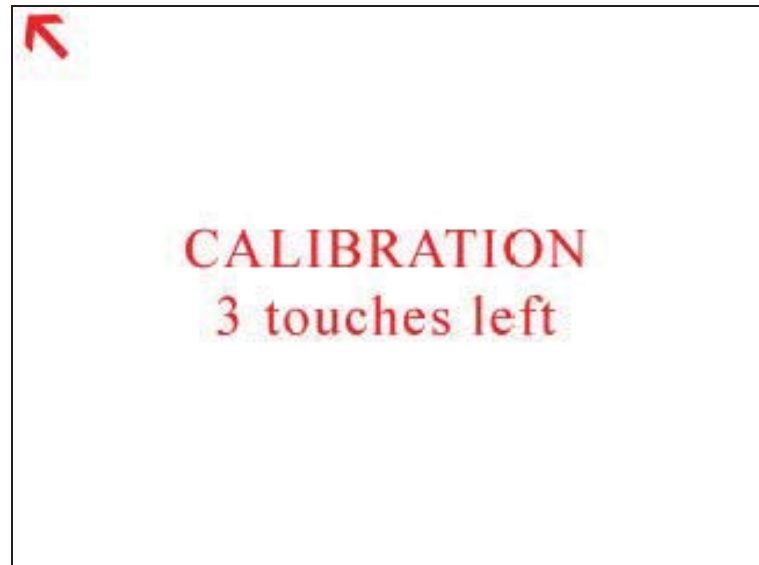

Figure 6-44 Alignment Screen 3
- The third screen displays the arrow in the upper left corner. The arrow will have to be touched three times to ensure calibration as Figure 6-44 illustrates this.